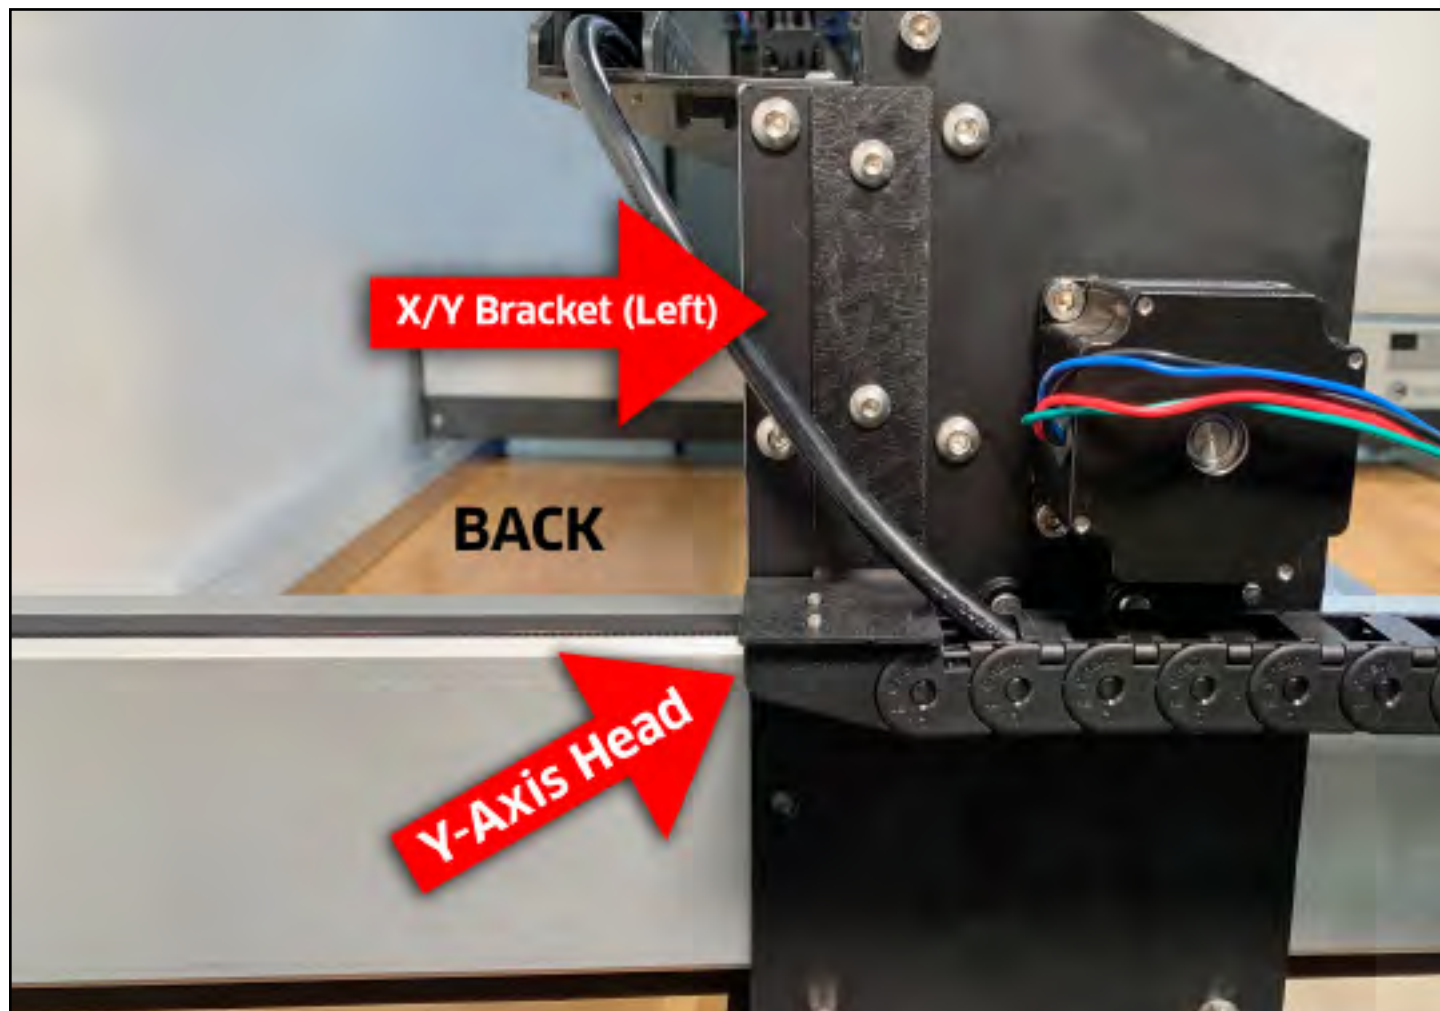

Figure 7-10
1. Position the transition bracket and Y-Axis drag chain combo alongside the Y-Left rail. See **Fig. 7-10**.
2. Use a 3mm hex key and two (2) M5×10mm BHCS to secure the bracket. Fully tighten.